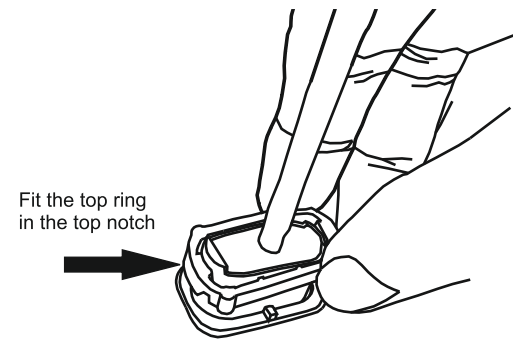

Fig. 3
- 6) Hold the sensor module from outside to keep it in place while fitting it to the bracket. First put the bottom ring (white) over the sensor module. Then fit the top ring (Yellow) in the top notch on one side and press it from the other side as shown in Fig. 3. The top ring will be locked in the top notches on both the sides of the sensor module.